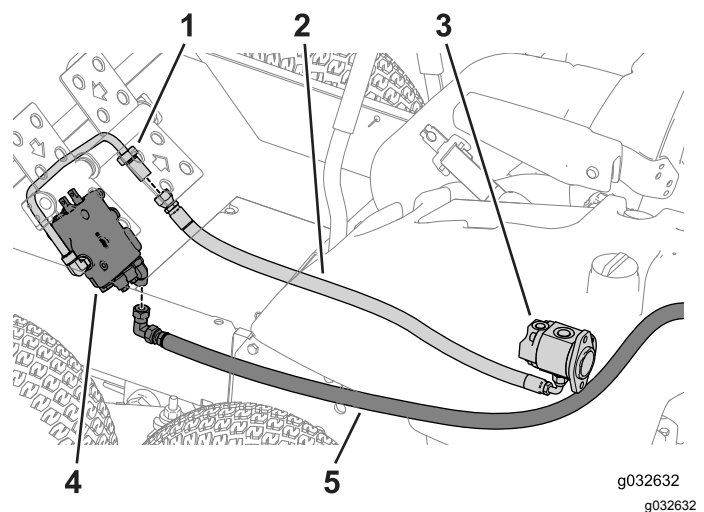

Figure 81
4. Route the hoses toward the front of the machine (Figure 81)